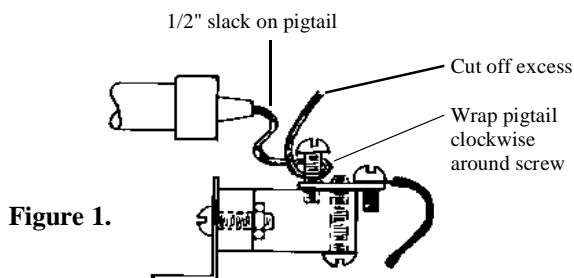

Figure 1.
- 2 Carefully wrap the heating element pigtail clockwise around the terminal screws (see Figure 1). **NOTE:** Cut excess pigtail wire off at the terminal to prevent the lead wire from touching metal parts. Avoid handling quartz glass as much as practical. Quartz should be wiped off with a clean cloth.
- 3 Tighten terminal screws (see Figure 1). **CAUTION: Do not draw pigtail so tight that pressure is put on the heating element. Maintain a partial loop (or looseness) in the pigtail.**